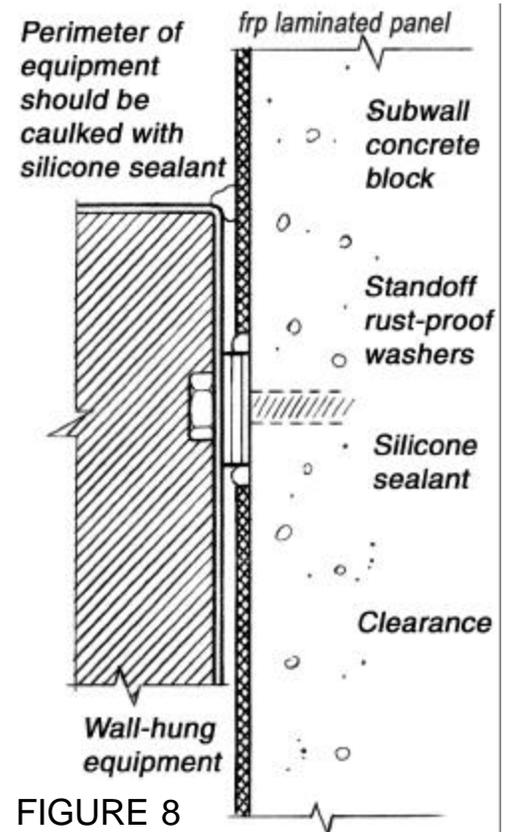

FIGURE 8
6. Install wall-hung equipment and signs with standoffs (washers) between the substrate wall and equipment, making certain that the standoffs are thick enough to expand and contract. Drill panels 1/4" diameter larger than the standoffs (see figure 8).